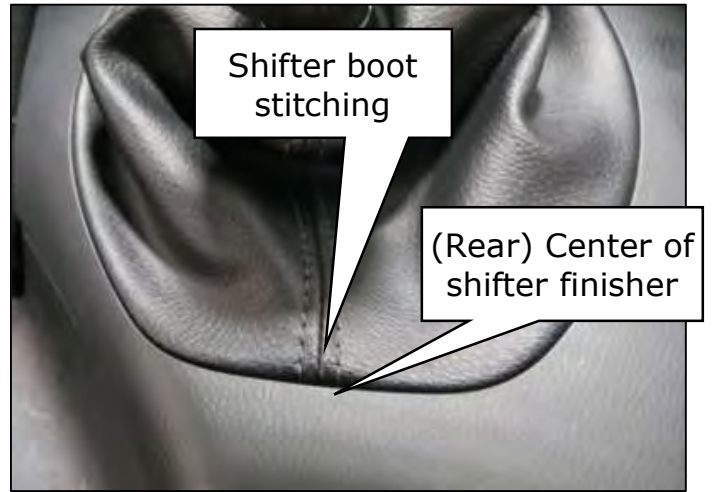

Figure 140
- Position the trim ring/shifter boot over the shifter finisher (Figure 140)
- Verify the shifter boot is aligned with the stitching centered on the front and the rear of the shifter finisher (Figure 140)